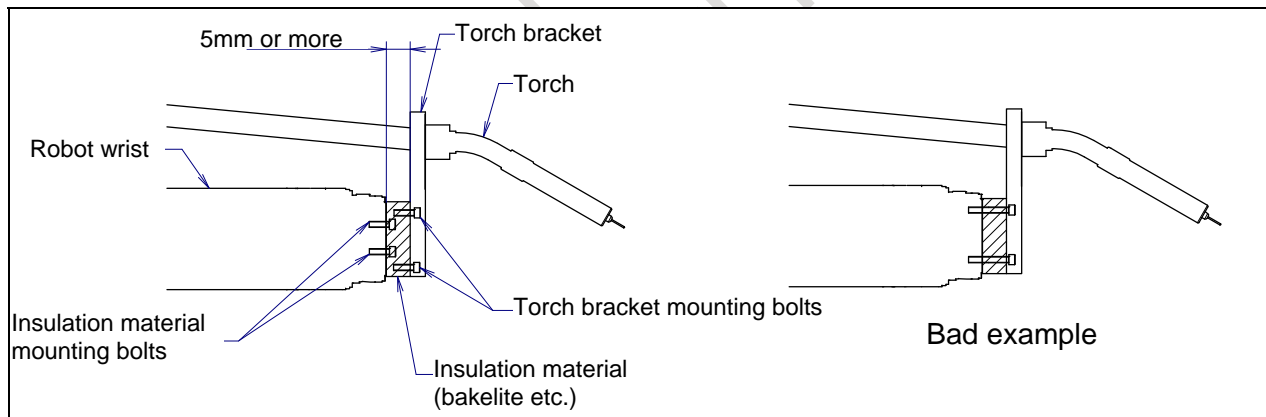

Fig.E.1 (a) Insulation at the wrist
- Insulate the end effector mounting surface. Insulation material which is inserted between the end effector mounting surface and the welding torch bracket must be different, and bolt them separately referring to Fig. E.1 (a).